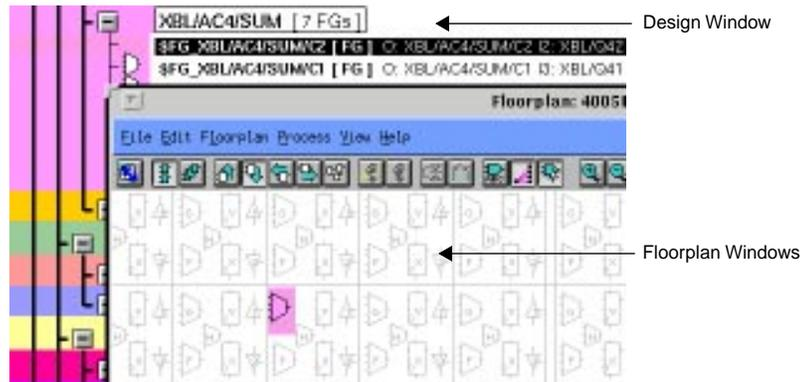

Figure 4-25 Placed Logic Symbol in the Floorplan Window
2. Pick one symbol at a time and place it in the desired location in the Floorplan window. Figure 4-25 shows the cascaded Design and Floorplan windows. Note that the floorplanned logic symbol is highlighted in reverse video in the design hierarchy.